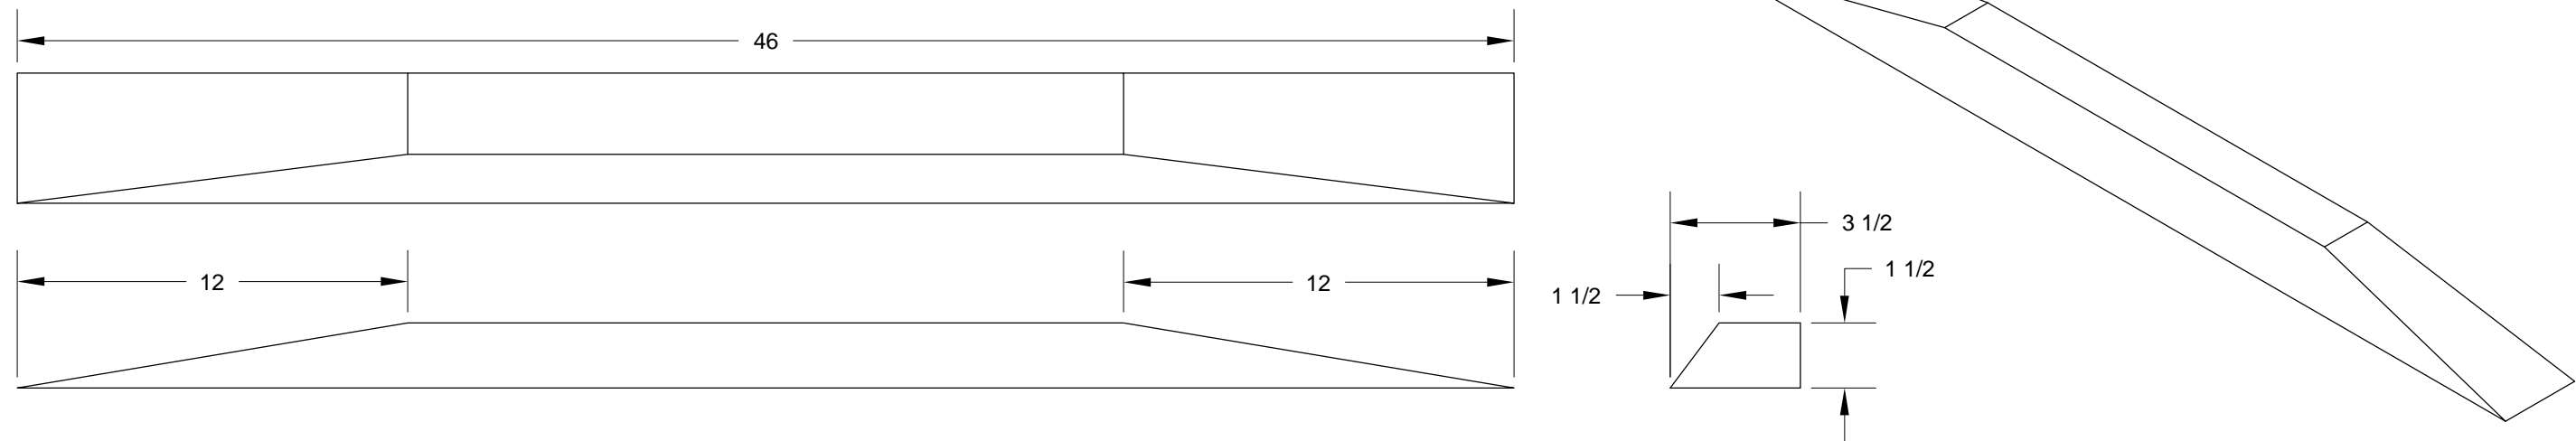

FIGURE 1: FABRICATING THE CLAMPING BLOCK
Step 3: Cleco the #40 hole in the F-1070A Roll Construction Angle to the alignment hole (called out in Figure 3) in the F-1070R Mid Side Skin. With the roll construction angle parallel to the bottom edge (indicated in Figure 3) of the mid side skin, match-drill #40 all of the holes along the bottom edge of the mid side skin into the roll construction angle. Separate the two parts. Cleco the original #40 hole in the F-1070A Roll Construction Angle to the #40 hole in the F-1070B Roll Construction Angle, and clamp the remaining portions together (see Page 29-5, Figure 1 for their orientation). Match-Drill #40 all of the holes in the F-1070A Roll Construction Angle into the F-1070B Roll Construction Angle. Separate the two parts and set them aside.